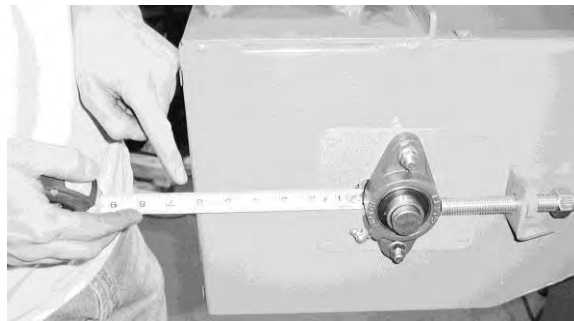

Figure 6 - Checking for Headshaft Skew
- Measure the distance between the bearing and the front edge of the sidewall (Figure 6.) to verify that the headshaft is not skewed.